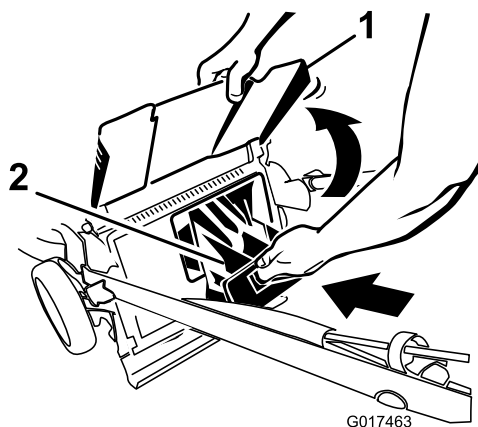
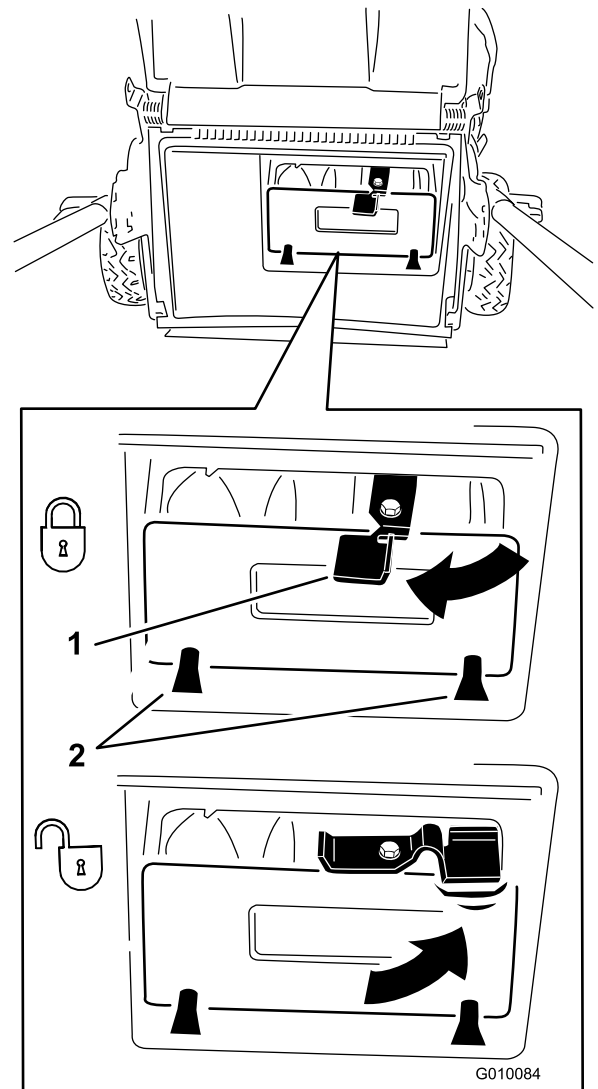

Figure 17
Figure 18
**Important:** Ensure that the rear discharge plug is locked in place. To lock the plug: Raise the discharge deflector (Figure 17), firmly push the plug in until it snaps into place behind the tabs, and rotate the lever on the plug to the left (Figure 18).
**Note:** To unlock the plug, rotate the lever on the plug to the right (Figure 18).